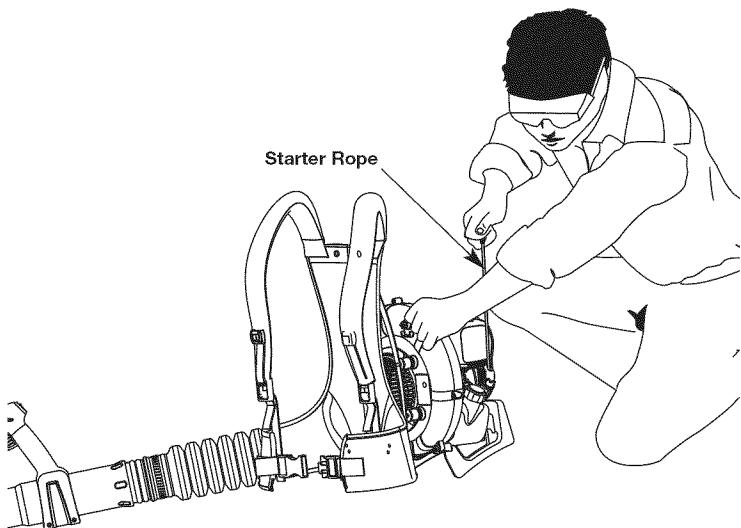

Fig. 16
WARNING: Avoid accidental starting. Make sure you are in the starting position when pulling the starter rope (Fig. 16). To avoid serious injury, the operator and unit must be in a stable position while starting. To avoid serious personal injury, make sure that the blower tube is locked in place or firmly installed.
5. Crouch in the starting position (Fig. 16). Pull the starter rope **5** times in a controlled motion.